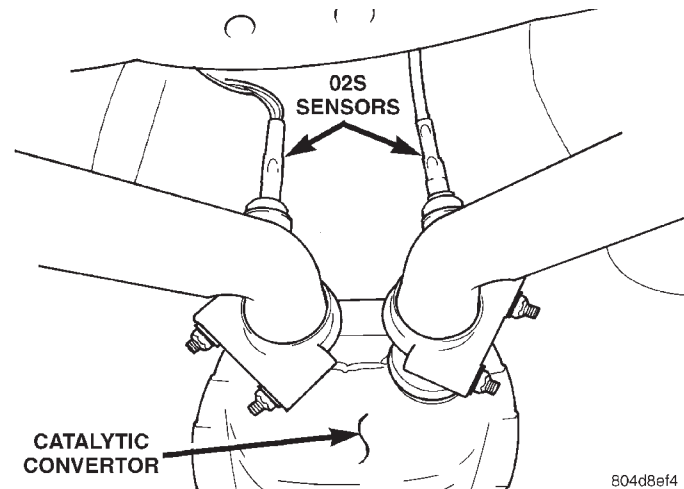

Fig. 53 Downstream Heated Oxygen Sensors
(21) Ensure the electrical connectors are attached to the downstream heated oxygens sensors (Fig. 53).